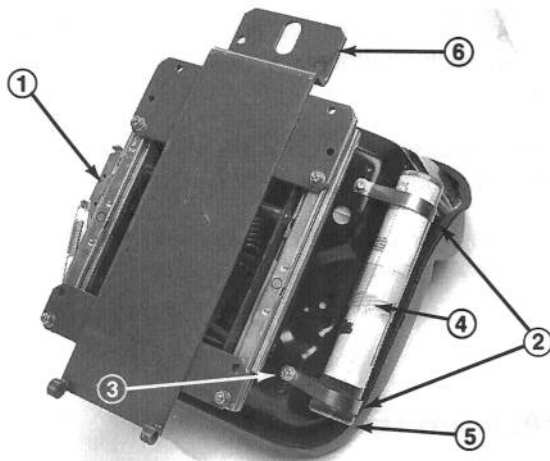

Figure 9
7. Mount seat suspension assembly to (4) capscrews on seat bottom and secure with (4) lockwashers, flatwashers and nuts (Fig. 9).
8. Loosely secure (2) R-clamps to right side of seat bottom with (2) capscrews supplied in kit (Fig. 9). Install manual tube into R-clamps and tighten capscrews (Fig. 9).
9. Mount seat support over four threaded studs at the bottom of seat suspension assembly and secure in place with lockwashers and nuts (Fig. 9).